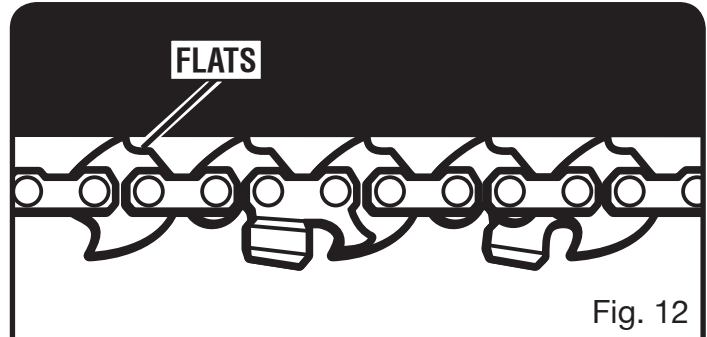

Fig. 12
- Chain must be re-tensioned whenever the flats on the drive links hang out of the bar groove as shown in fig. 12.